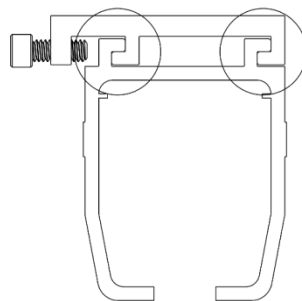

Figure 98: **Track alignment tabs, fully seated in bracket**
- Make sure the alignment tabs are fully seated, as shown in Figure 98.